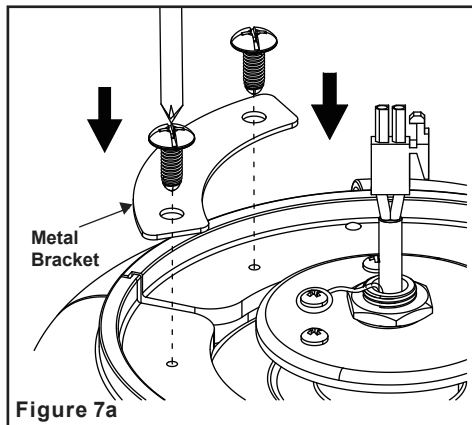
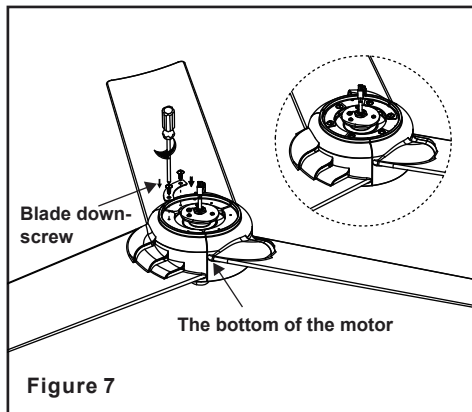

Figure 7a
Figure 7
**Step 2.** Attach the blade down—screws and the metal bracket (b) as shown in figures 7 and 7a. Make sure that each metal bracket is attached to two different blades as seen in figure 7a. Start a screw into the blade, do not tighten. Repeat for the remaining screws. Repeat these steps for the remaining screws and metal brackets.